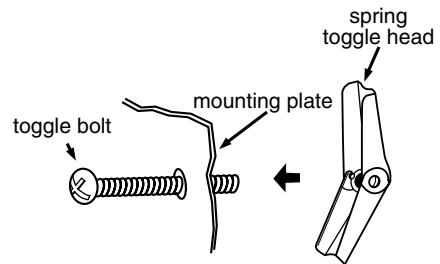

Figure 23
3. Prepare the toggle bolts by attaching a spring toggle head to the end of each toggle bolt as shown in Figure 23.